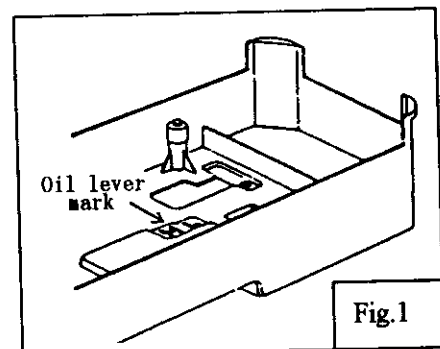

Fig.1
### 1. Lubrication (1) (Fig.1)